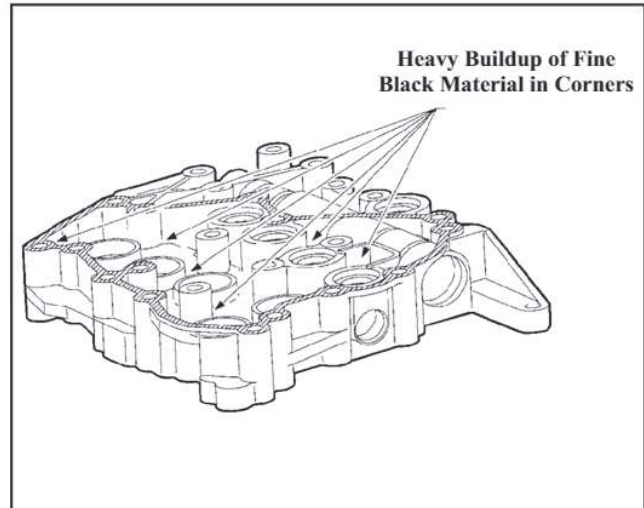

Figure 181
13. Before installing the actuators into the upper valve body, carefully inspect for heavy metal build up in the corners as shown in Figure 181.
IMPORTANT: Some transaxles may have been manufactured with iron sediments that migrates to the control body assembly causing deposit buildup on the upper valve body as shown in Figure 181. This also may cause the actuator valves and or valve body valve to seize or become sticky. Careful inspection of the actuators and valves must be taken.